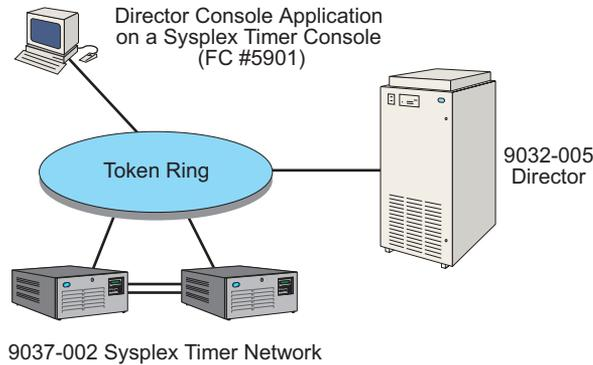

Figure 25. Director Console Application on a Sysplex Timer Console
2. The IBM PC Console used with a 9037 Model 2 Sysplex Timer network (Figure 25).